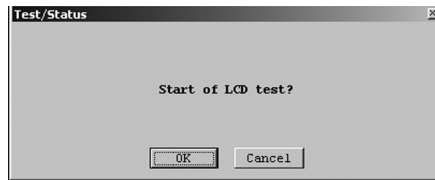

Fig.54
- ③ To diagnose the LCD display, click on "OK" button. A message box like the one shown in Fig. 54 then appears.